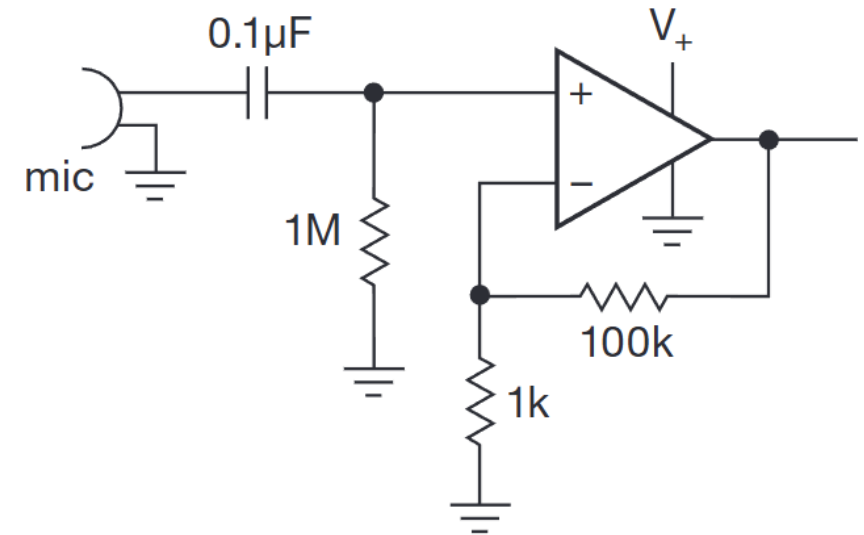

Fig. 1. Defective single-supply microphone amplifier
- C1: AC coupling on the input, blocking DC (same as Fig. 1)
- R3, R4: closed-loop negative feedback (same as Fig. 1)